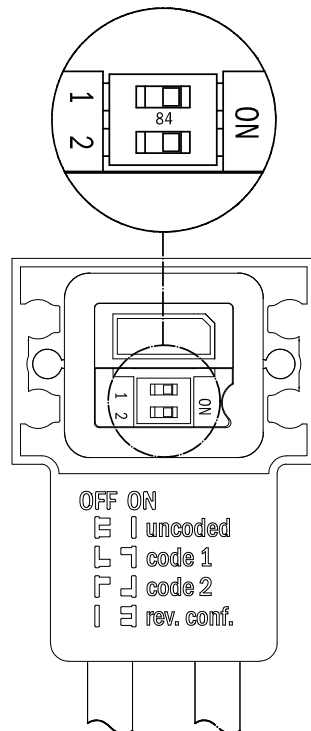

Figure 42: Reset to factory settings
3. Set both DIP switches to ON, see figure 42.
2. Set both DIP switches to ON, see figure 42.